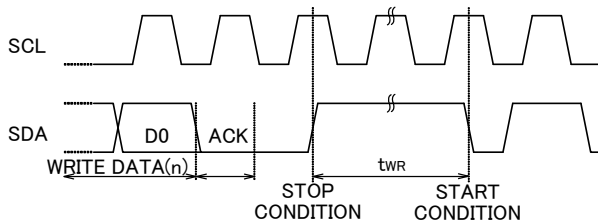

Fig.1-(c) Write Cycle Timing
- For WRITE operation, WP must be "Low" from the rising edge of the clock (which takes in D0 of first byte) until the end of  $t_{WR}$ . (See Fig.1-(d) ) During this period, WRITE operation can be canceled by setting WP "High". (See Fig.1-(e) )